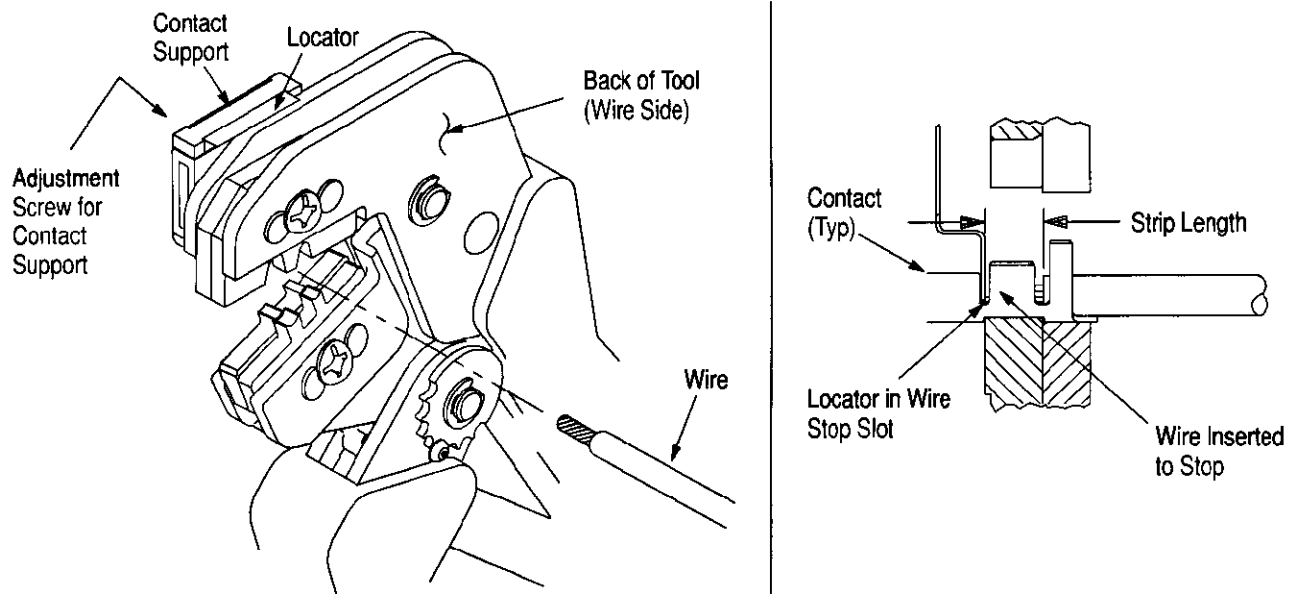

Figure 3
4. CONTACT SUPPORT ADJUSTMENT (Figure 3)
Refer to the table in Figure 1 and select wire of the specified size and insulation diameter. Strip the wire to the length indicated in Figure 1, taking care not to nick or cut wire strands. Select an applicable contact and identify the appropriate crimp section according to the wire size markings on the tool. Refer to Figure 3 and proceed as follows:
3. Position the contact so that the mating end of the contact is on the locator side of the tool, and so that the open “U” of the wire and insulation barrels must face the top of the tool. Place the contact up into the nest so that the movable locator drops into the slot in the contact. Refer to Figure 3. Butt the front end of the wire barrel against the movable locator.
5. Insert stripped wire into contact insulation and wire barrels until it is butted against the wire stop, as shown in Figure 3.
The crimped contact may stick in the crimping area, but the contact can be easily removed by pushing downward on the top of the locator (see Figure 3).